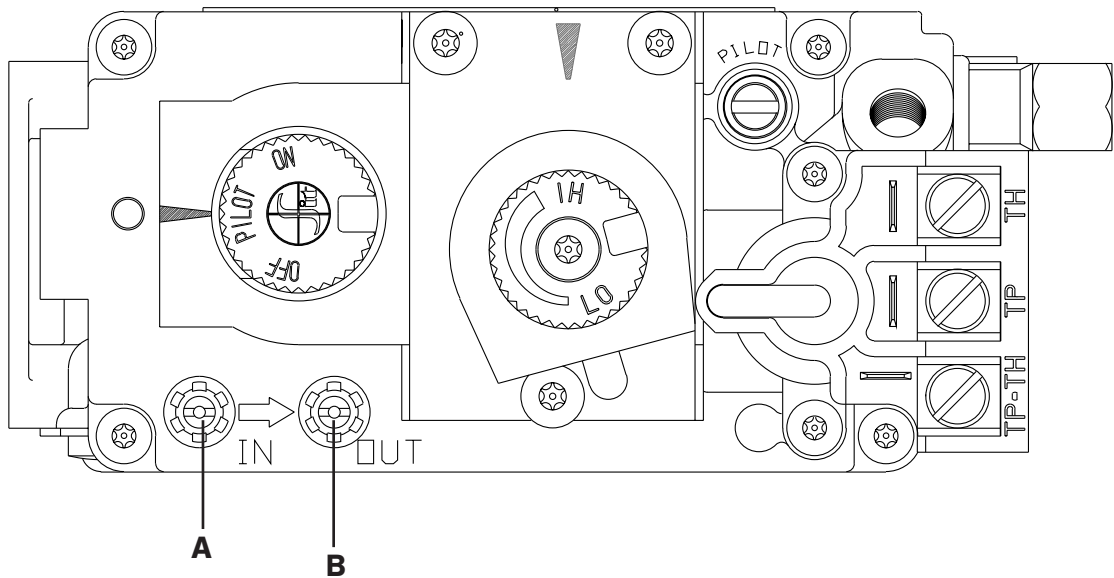

Figure 12.1, Pressure Check Taps Locations
1. Loosen the inlet (IN) pressure tap by turning screw counterclockwise. See (A) in Figure 12.1.
8. Disconnect hose and tighten the inlet (IN) pressure tap by turning screw clockwise. Screw should be snug. Do not over tighten.
9. Relight pilot and turn the gas control knob to ON. Reattach manometer to the inlet pressure tap (A) to verify the tap is completely sealed. Manometer should read no pressure.
2. Loosen manifold (OUT) pressure tap by turning screw counterclockwise. See (B) in Figure 12.1.
7. Attach the manometer to the manifold pressure tap (B) to verify it is completely sealed. The manometer should read no pressure when the rocker switch is pressed to ON.